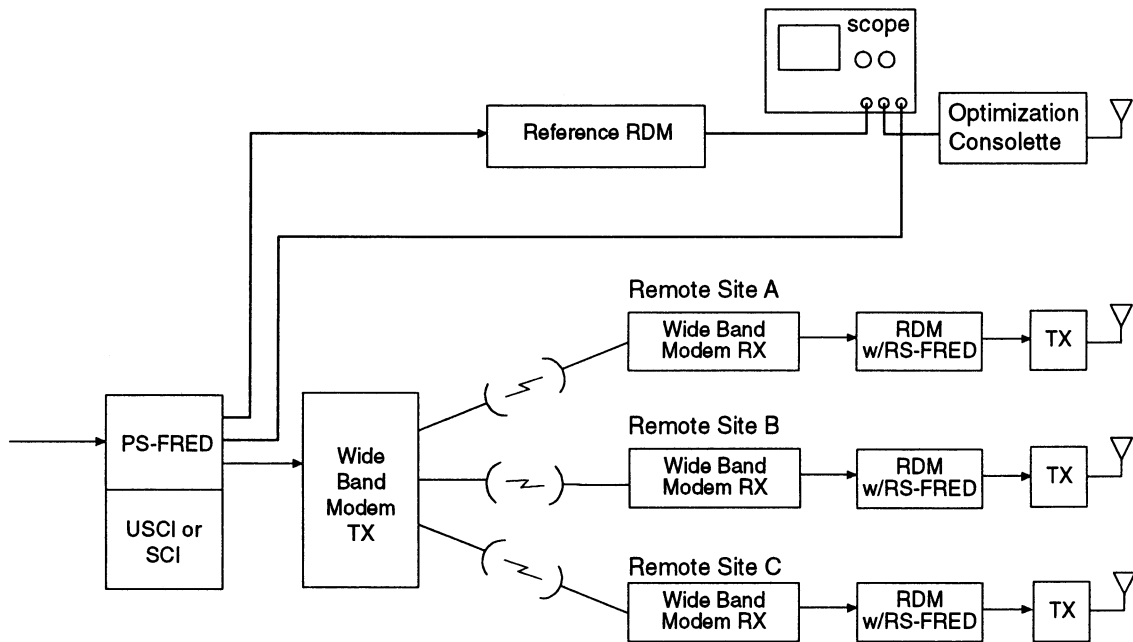

Figure 40. Four-Level Phasing Equipment Setup
- Step 3. Refer to Figure 40 and set up your equipment for phasing a four-level system.